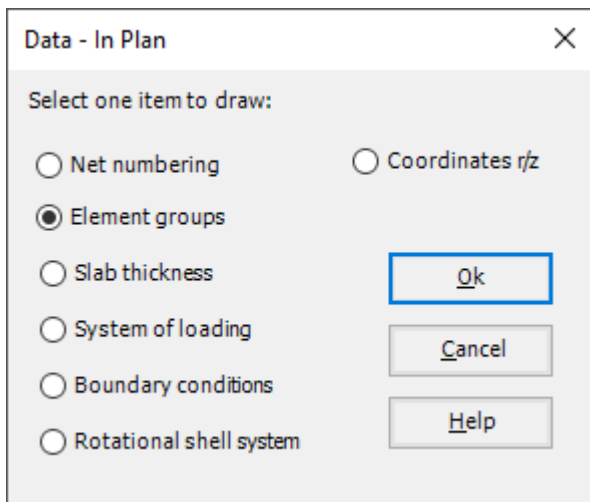

Figure 7.30 "Data – In Plan" option box
- Choose "Element groups" from "In Plan" command in "Data" menu. The following option box in Figure 7.30 appears